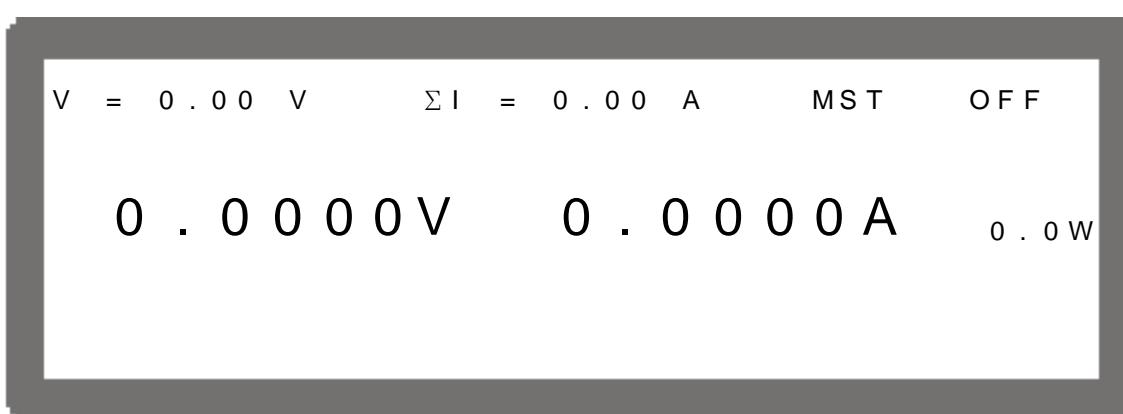

Figure 3-43
3. Press “” to confirm, it will skip to the series/parallel MASTER page automatically as Figure 3-43 shows.